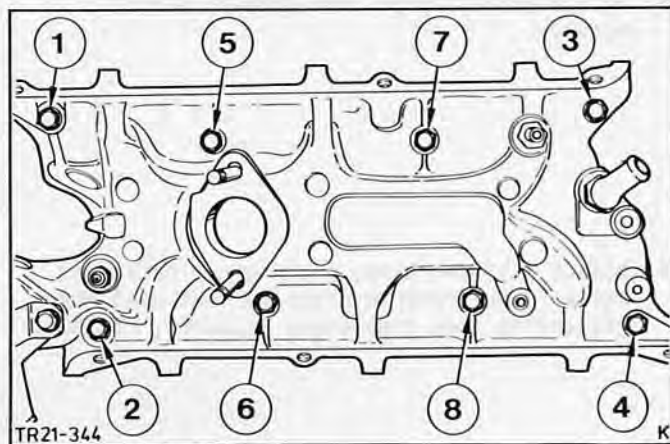

Fig.82. Tightening sequence - inlet manifold bolts.
22. Fit inlet manifold and tighten the bolts to the specified torque in three stages as shown in the diagram, Fig.82.